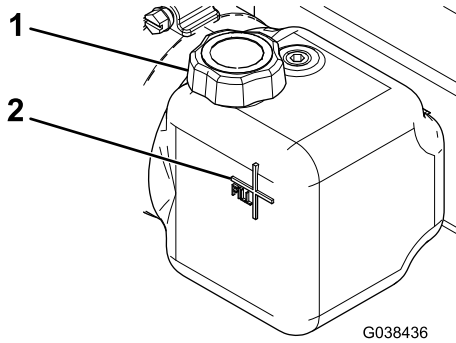

Figure 25
2. Clean the area around the fill cap (Figure 25).
3. Remove the fill cap from the hydraulic reservoir (Figure 25).
4. Slowly fill the reservoir with BOSS high-performance hydraulic fluid to the fill line on the outside of the tank (Figure 25).